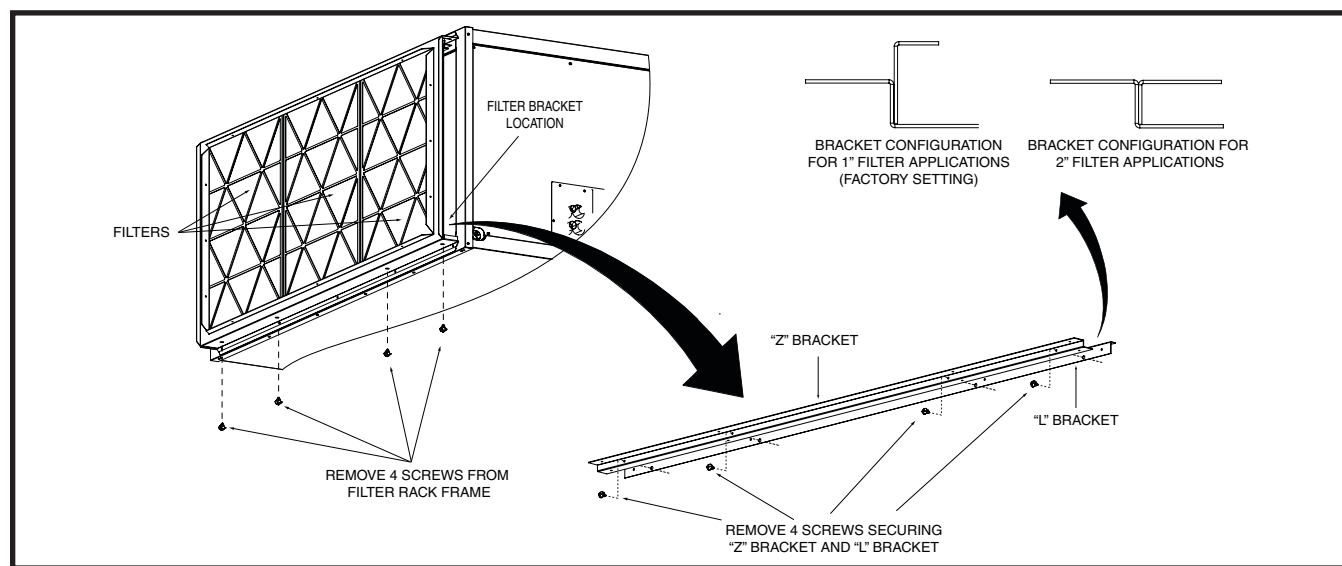

Figure 1. Converting from 1" Filter to 2" Filter Applications
B6TM air handlers are shipped with three permanent 1" filters; however the filter rack can be converted to accommodate a 2" filter as shown in Figure 1. To convert to a 2" filter:
2. Locate and remove the 4 screws (Figure 1) holding the bottom filter slide assembly (latch end) to the filter rack frame. **NOTE:** Be careful when removing the slide assembly so it does not drop into unit and cause damage to the coil.
4. Rotate the "L" bracket 180 degrees, and reposition it so it mounts flush with the "Z" bracket. See Figure 1.